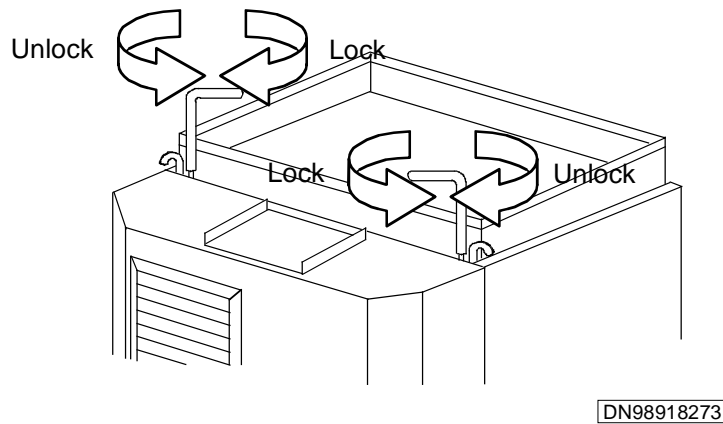

Figure 35 Locking bar opening direction
2. Using the triangle BTS door key, unlock the locking mechanism as shown in Figure 35.
7. Support the HE and lock both sides using the triangle BTS door key, as shown in Figure 35. Ensure that there is no gap between the HE and the cabinet.
7. Support the ACU and lock both sides using the triangle BTS door key, as shown in Figure 35. Ensure that there is no gap between the ACU and the cabinet.